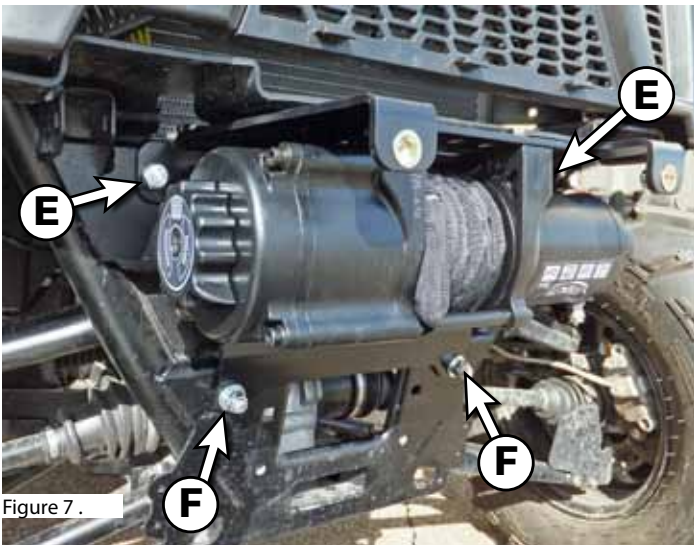

Figure 7.
10. Lift assembled winch and mount into position on machine frame as shown in Figure 7. Fasten to frame using two M10 bolts & lock washers at positions (E) and two 3/8" carriage bolts & flange nuts at positions (F). Loosely start the top bolts first to make install easier. Install carriage bolts (F) with the head to the rear of the frame and nut on the front side with the mount plate as shown in Figure 7 and Figure A (pg.1). Tighten all hardware evenly.